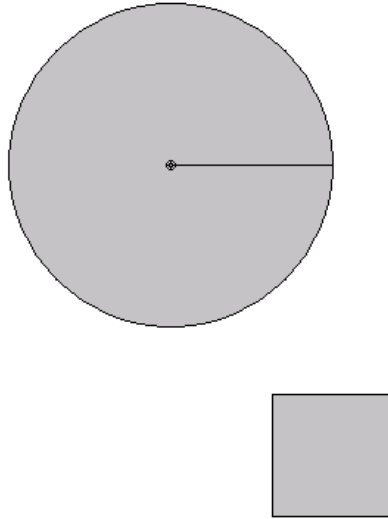

Figure 3
4. Draw a rectangle in the vicinity of mass B and change the X coordinate of the center of the box to 120. The resultant workspace should look like Figure 3.